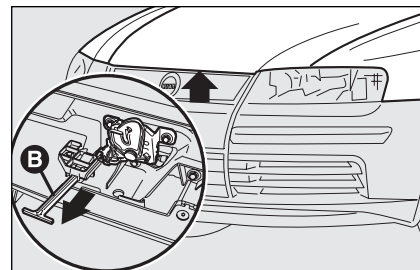

fig. 119
- ☐ pull lever **B-fig. 119** and lift the bonnet.